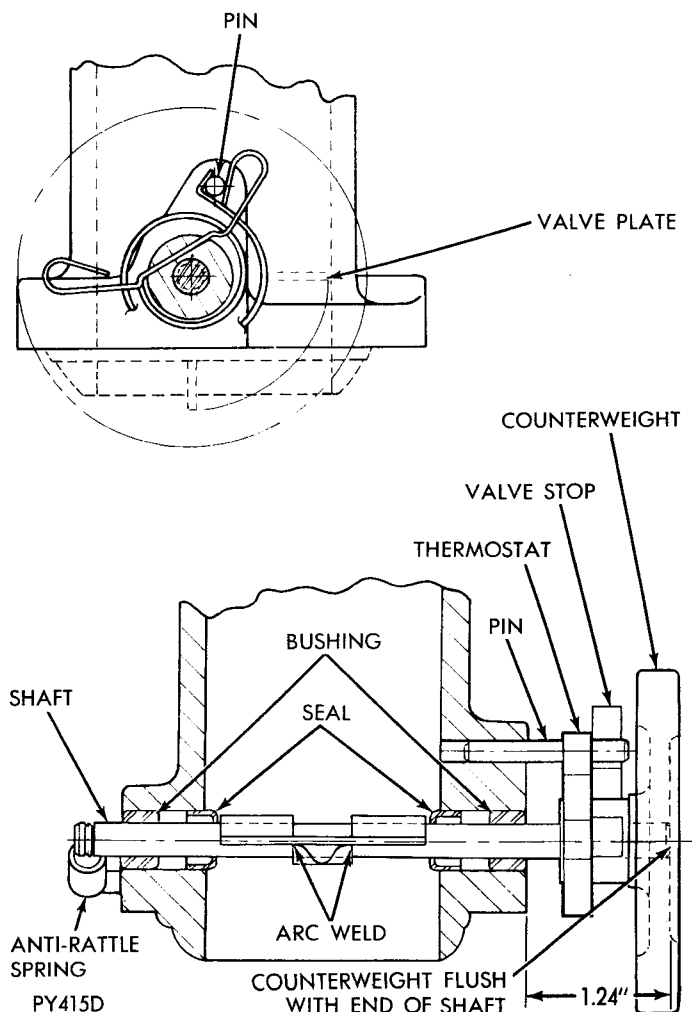

Fig. 12—Proper Manifold Heat Control Valve Installation (400 and 440 Cubic Inch Engines)
(1) Position valve plate, grind off welds from valve plate and shaft.
(2) Remove counterweight and shaft assembly, valve plate.
(3) Press out bushings and cup seals from manifold (Fig. 12).
(4) Inspect vent holes and clean out if necessary.
(1) **Press** in cup seals until seals extend into manifold .100 inch on each side with curved ends facing outwards (Fig. 12).
(3) Line ream bushings and seals .3095 to .3110 inch diameter. Test for free fit of shaft in bushings and seals.
(4) Mark one end of shaft with a suitable dye at 1.240 inches, press counterweight on marked end of shaft until flush with end of shaft.
(5) Install thermostatic spring on counterweight with center end or tab pointing **left** and outer end or hook pointing right.
(6) Install valve stop on counterweight with looped ends facing away from thermostatic spring hook end.
(7) Holding thermostatic spring wrapped 215 degrees in a **counterclockwise** direction viewed from counterweight end, install shaft assembly in manifold and valve plate with strap facing flange end of manifold; attach hook end of thermostatic spring to stop pin (Fig. 12).
(8) With counterweight end of shaft positioned 1.240 inches (previously identified) away from manifold, valve plate centered between seals and valve plate closed (Fig. 12).
(9) Arc weld valve plate to shaft with stainless steel rod. Arc welding ground must be made at counterweight.
(10) Test for free operation. Install anti-rattle spring.
(11) Complete assembly and installation.